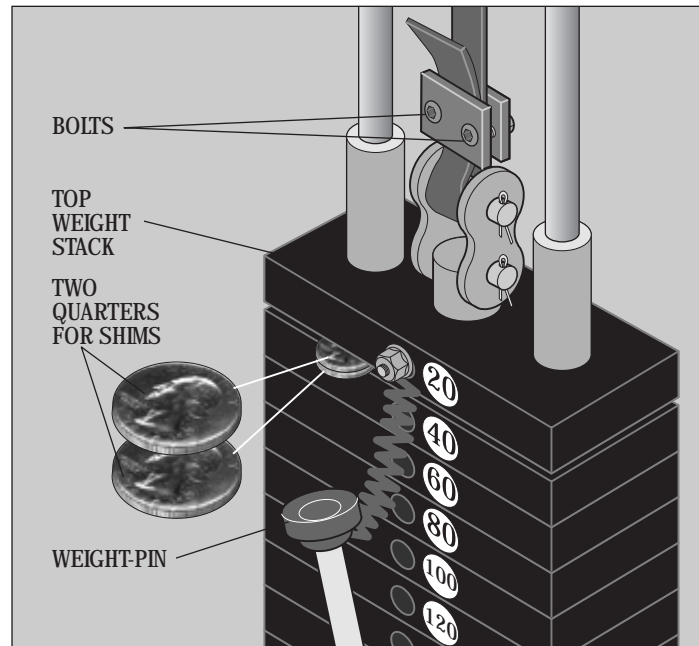

Figure 3
2. Remove the Tethered Weight-Pin from weight stack hole. See Figure 3.